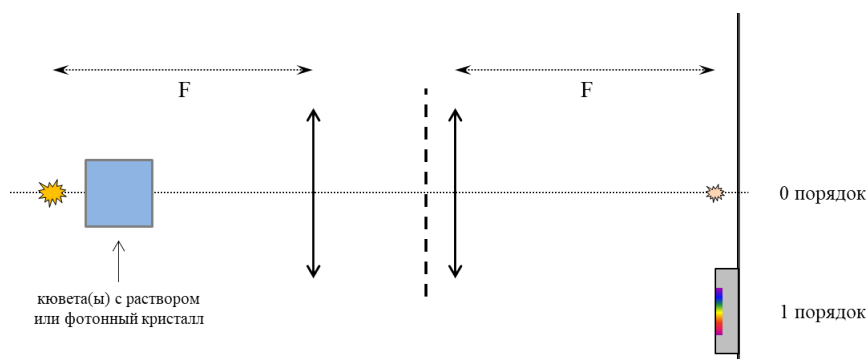

Figure 2: Figure 2.
The spectrometer will consist of an incandescent lamp (providing a continuous spectrum of radiation), a pair of lenses, a diffraction grating and a one-dimensional array of photodiodes, the data from which is collected into a computer. Attention! When assembling and adjusting the installation, make sure that there are no vertical or horizontal lens shifts: both lenses, the light source and its image (0th maximum) must be on the same axis. Assemble the installation (follow the diagram in Fig. 2): on the voltage source (18), unscrew the current and voltage adjustment knobs to 0; install the incandescent lamp (8) in the tripod (2), apply voltage 12 V to the lamp (this is important! the emission spectrum depends on the temperature of the filament = voltage); position the lens without a diffraction grating (6) so that the lamp is in the focus of the lens (the optical power of each lens is +6 diopters); make sure there is a parallel beam of light behind the lens; place one additional stand (2) between the lamp and the lens (it will be used as a sample holder); place the second lens with a diffraction grating (5) at a short distance from the first lens, the diffraction grating should face the first lens; the lines of the diffraction grating must be located vertically; place the screen (3) at the focus of the second lens.
Assemble the installation (refer to the diagram in Fig. 2):